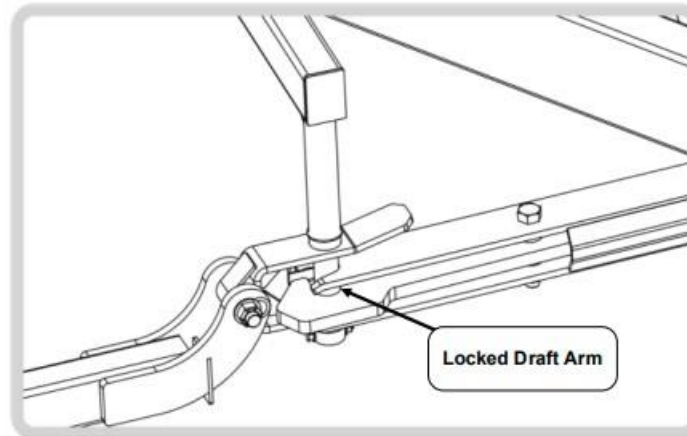

FIGURE 6
10. Ensure that the draft arms have pushed the swing arms into the lock mechanism (fig. 6).